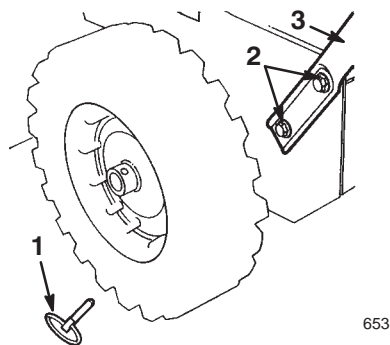

Figure 3
2. Remove the axle pins from both wheels (Fig. 3) and slide the wheels outward on the axle approximately one inch (2.5 centimeters).
- Position the left side of the handle assembly against the left side of the snowthrower, align the handle mount holes with the holes in the side plate, and secure the left side of the handle assembly with two bolts and curved washers until they are finger tight (Fig. 3).